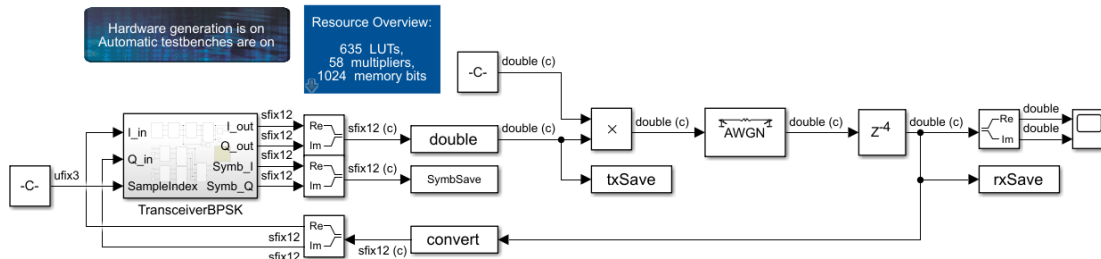

Figure 7: Connection of the channel model to the transceiver.
- You are now ready to connect your channel model in the loopback path in your top-level Simulink project. Remove the wires connected to the input of the *TransceiverBPSK* and add a *Convert* block. In the *Convert* parameters, change **Output minimum** to $-(2^{(\text{wordLength}-1)}-1)$, **Output maximum** to $2^{(\text{wordLength}-1)}-1$ and **Output data type** to `fixdt(true, wordLength)`. Add a *Complex to Real-Imag* block and connect it as shown in Fig. 7. Finally, add a *Real-Imag to Complex* block and a *To Workspace* block and connect them to the Symb outputs of the transceiver. Set the **Variable name** of the *To Workspace* block to SymbSave